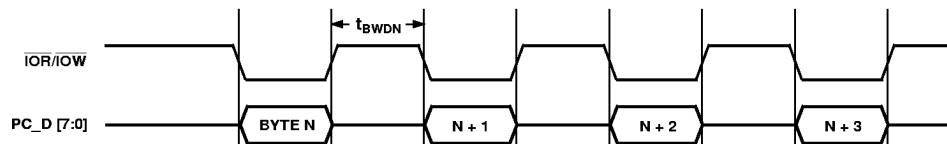

Figure 15. Codec Transfers
After setting format bits, sample data into the AD1815 must be ordered according to Figure 15 Table VI
- CFMT [1:0]** (RW) Capture Format. Use these bits to select the format for capture data according to the following Table VI and Figure 15.